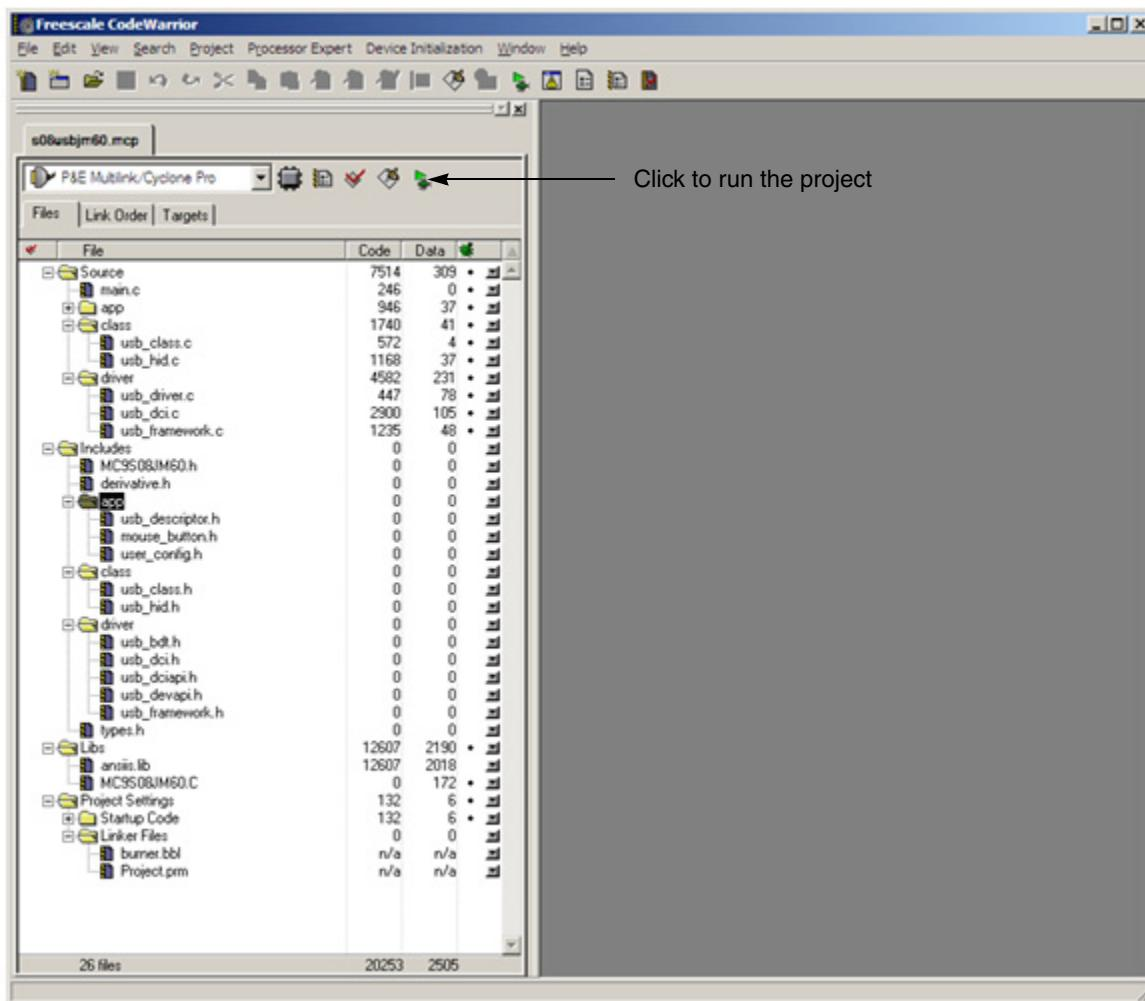

Figure A-10. Running the application
- To run the application, click the button as shown in Figure A-10.